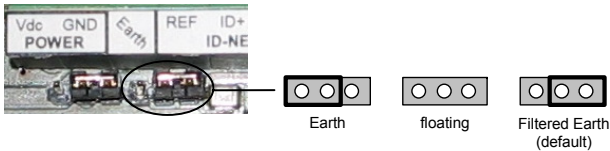

Figure 6– Shield to Protection Earth Jumper Settings
- Connect the Network Cable Shield (Shield) to Filtered Earth through the jumper (default setting, see Figure 6).